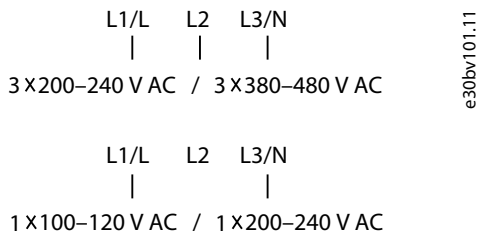

Figure 46: Single-phase and 3-phase Wire Connections
1. Connect the AC input power cables to terminals N and L for single-phase units, or to terminals L1, L2, and L3 for 3-phase units as shown in Figure 46 (see 7.10.1 Mains, Motor, and Grounding Connection for more details).